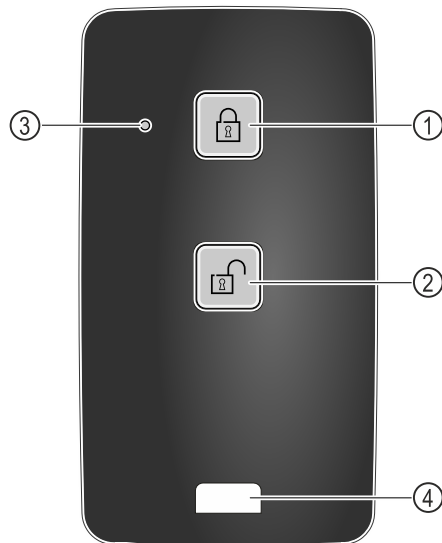

Fig. 149
- (1) Engage lock
- (2) Unlock lock
- (3) Status LED
- (4) Fastening eyelet
- ▶ Press button Fig. 149 (1) on the remote control.
- ▶ Press button Fig. 149 (2) on the remote control.
- ▶ Status LED Fig. 149 (3) provides a visual acknowledgement when you press the button.
- ▶ Eyelet Fig. 149 (4) for attaching remote control, for example, to a key ring.